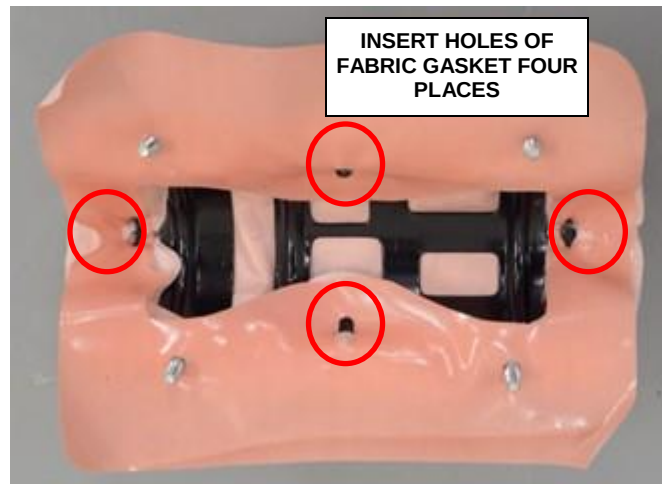

Figure 151 – Fabric Gasket
- c. Disconnect the single yellow wire inflator connector from the end of the inflator using pliers (Figure 151).
- d. Remove the yellow three way inline connector from the housing bracket (Figure 151).